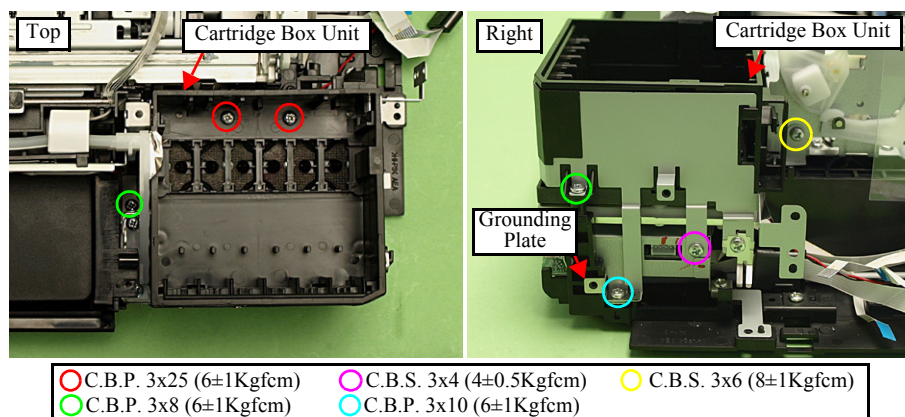

Figure 4-80. Removing the Cartridge Box Unit
- Make sure to attach the grounding plate to the place shown in Fig. 4-80, and secure it with the screw.